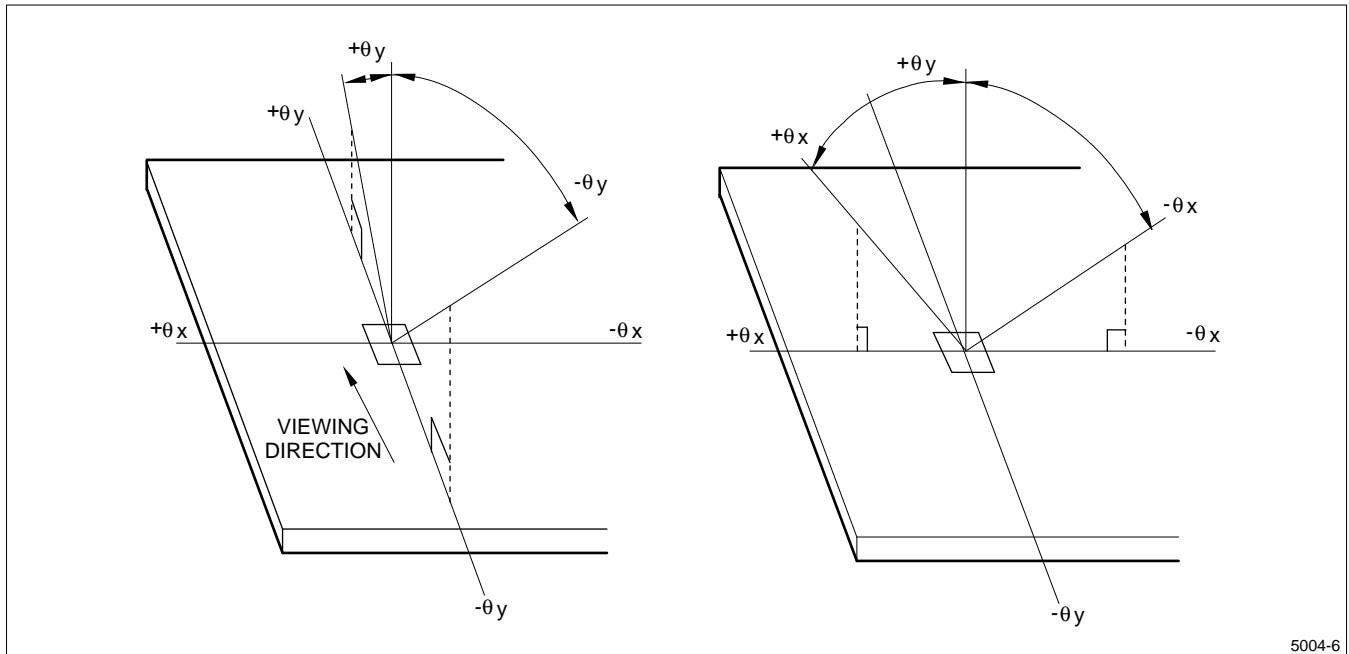

Figure 7. Definition of Viewing Angle
- The viewing angle is defined as shown in Figure 7.